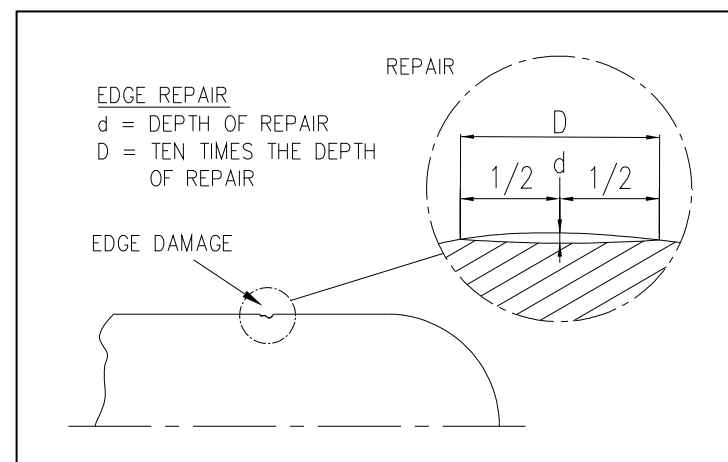

Figure 7-6 Blade edge local repair
- 1 Use a small hand-held rotary grinder with grinding wheel, half-round mill file or 80-grit sandpaper to remove damage from blade edge as displayed in figure 7-6.